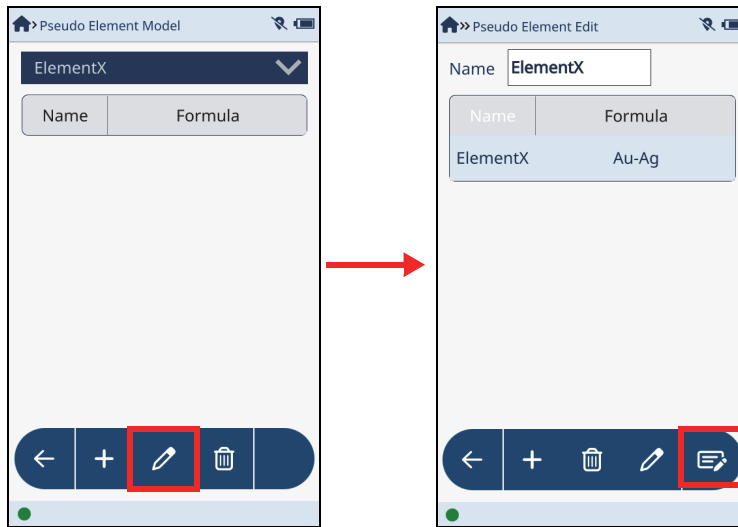
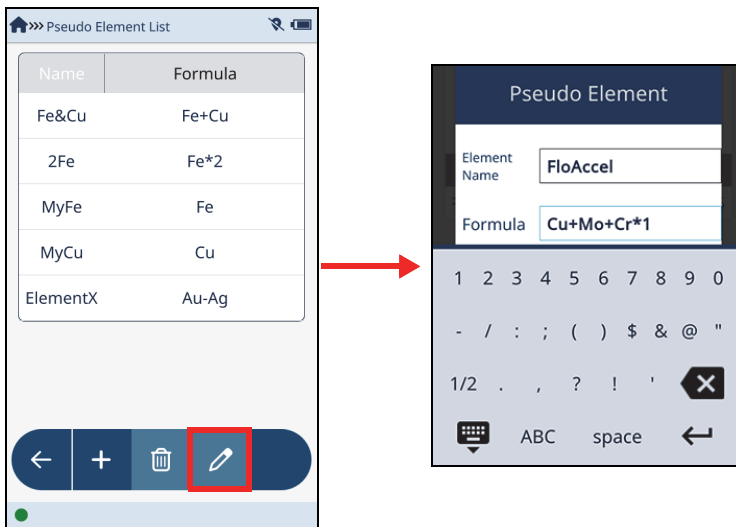

Figure 2-53 Pseudo Element Model screen (left) and Edit screen (right)
Figure 2-54 Editing an element in the Pseudo Element list
2. Tap the **Edit** button () to display the **Pseudo Element Edit** screen (see Figure 2-53 on page 67 [left]).
3. On the **Pseudo Element Edit** screen, tap the **Edit List** button () (see Figure 2-53 on page 67 [right]) to open the **Pseudo Element List** screen (see Figure 2-54 on page 68).
4. Tap a pseudo element in the list, and then tap the **Edit** button () to display the **Pseudo Element** dialog box (see Figure 2-54 on page 68).